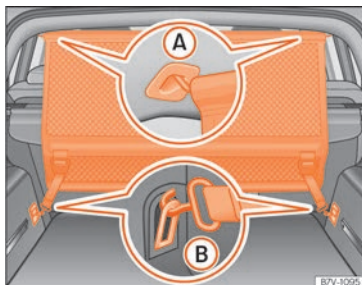

**Fig. 153** Net partition fitted.
- Secure the net partition in the left housing of the roof »» Fig. 153 (A). Make sure to move the cross rod down beyond the upper position.
- Hook in the net partition on the rear right-hand side roof housing by pressing on the rod »» Fig. 153 (A).
- Secure two hooks of the partition net to the fastening rings of the boot »» Fig. 153 (B) and tighten the straps firmly.
- Release the net hooks from the fastening rings »» Fig. 153 (B).
- Unhook the net partition on the right-hand side roof support »» Fig. 153 (A) by pressing on the rod.